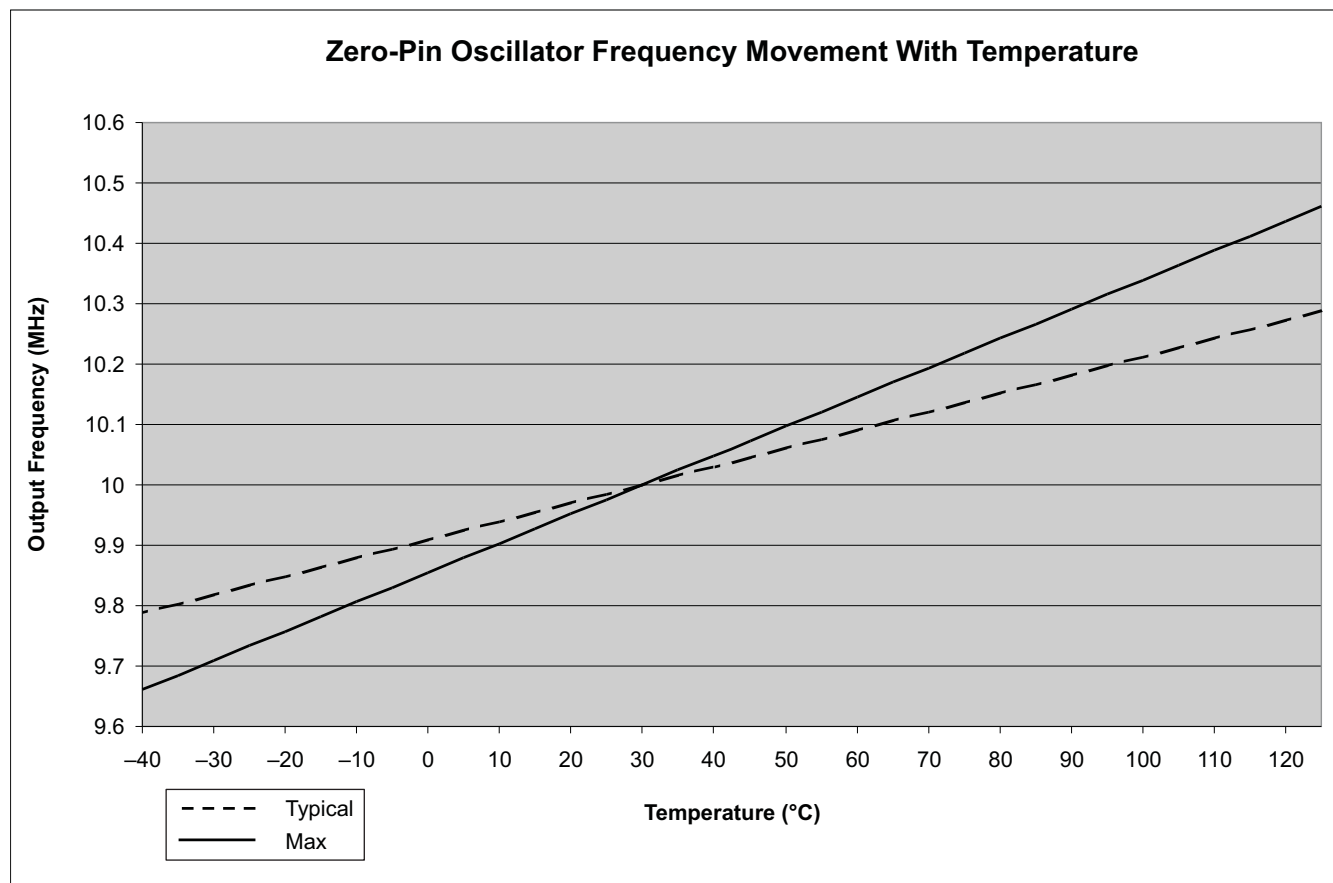

Figure 5-9. Zero-Pin Oscillator Frequency Movement With Temperature
- (1) To achieve better oscillator accuracy (10 MHz ± 1% or better) than shown, see the Oscillator Compensation Guide. See Figure 5-9 for TYP and MAX values.
- (2) Frequency range is ensured only when VREG is enabled, $\overline{\text{VREGENZ}} = \text{V}_{\text{SS}}$.
- (3) Output frequency of the internal oscillators follows the direction of both the temperature gradient and voltage (V_{DD}) gradient. For example: